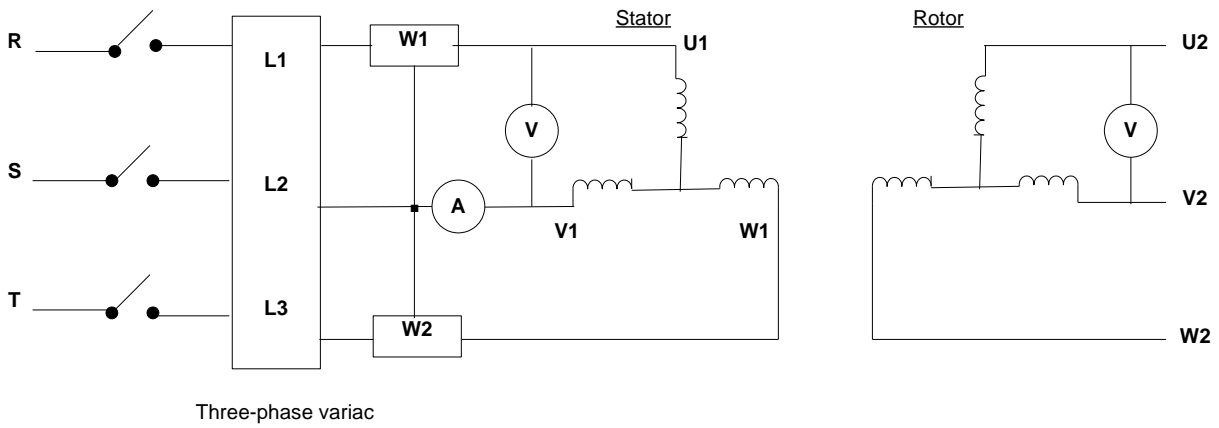

Fig.4
(1) Connect the circuit as shown in Fig.4, with the rotor winding open-circuited. Apply voltage to the stator winding and for several different values, measure the voltage induced in the rotor winding (this does not apply to induction motor with squirrel-cage rotors). Record at each step the values of stator voltage and rotor voltage.
(2) Disconnect the induction motor from the combined brake assembly "where possible" and apply a short-circuit to the rotor winding. (The induction motors with squirrel-cage rotor windings have already short-circuited windings due to their constructional features) apply a stator voltage of around 100 volt (line-to-line) and allow the-machine to run-up to no-load speed and then increase the stator voltage to the rated value. Now decrease the voltage in steps until the machine will no longer run recording at each step the value of stator voltage and current and the reading of each wattmeter. Record also the value of rotor-slip either by viewing a white mark on the rotor shaft with a stroboscope (strobeflash) operating in the "line" position and counting the number of slips in a given time or using a tachometer whichever is the most appropriate.
(3) Lock the rotor using the combined brake assembly (tuning the hydraulic-oil disc brake) and carefully increase the stator voltage in steps up to a value at which the stator current exceeds the rated value by 25%. Record at each step the values of stator or voltage and current and reading of each wattmeter. (Switch power back to zero.
(4) Measure the resistance of the rotor (for wound rotor machines) and stator winding using the voltmeter-ammeter method. Calculate rotor resistance of the squirrel-cage machine using the test values.